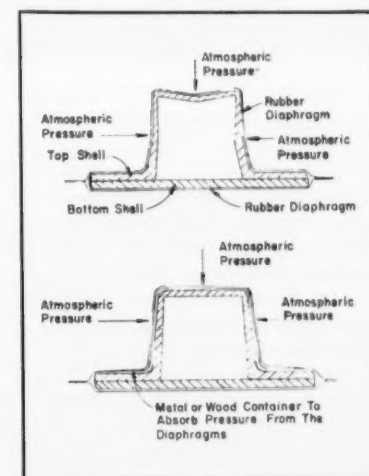

Fig. 4 . . . Rubber diaphragm and vacuum used to fuse shells in vacuum closing method.
**During the closing of shells when using the vacuum method of closing.** In this system a mold is placed between two rubber diaphragms and the air exhausted by a vacuum pump. Cracking difficulties arise when joining shells with a hollow section as depicted in Fig. 4. The force exerted against the shell is sufficient to crack or even smash